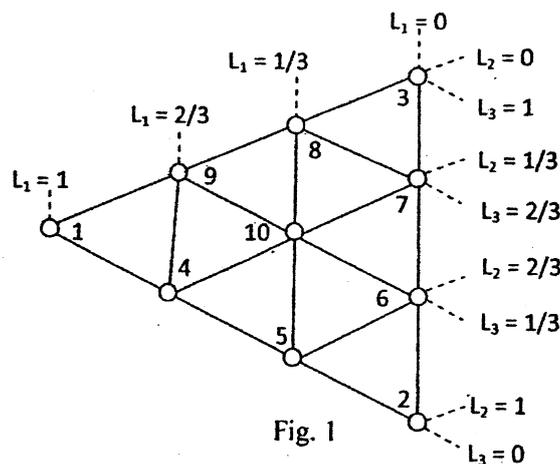

Fig. 1
3. a) Derive the shape function for the element as shown in the Fig. 1. [8]
- (b) Determine the stiffness matrices for the element as shown in Fig. 1.  $A=300 \text{ mm}^2$  and  $E=2.1 \times 10^5 \text{ MPa}$ . [10]